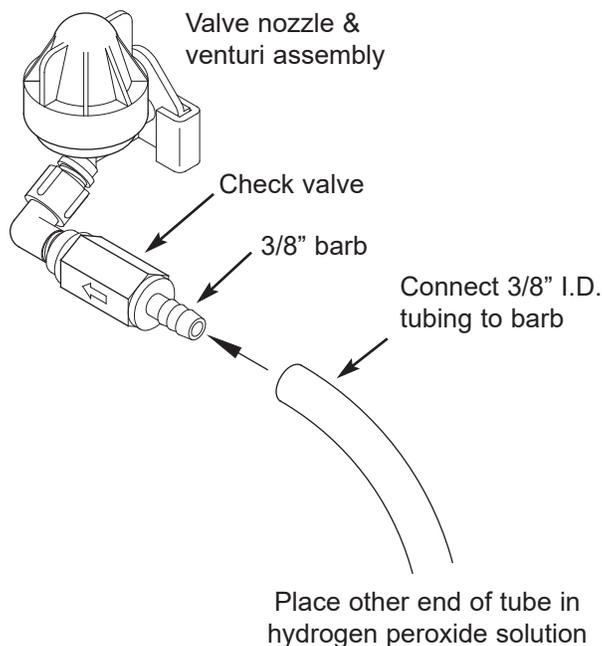

FIG. 6
3. Connect a length of 3/8 I.D. tubing to the barb on the aspirator check valve (See Figure 6).